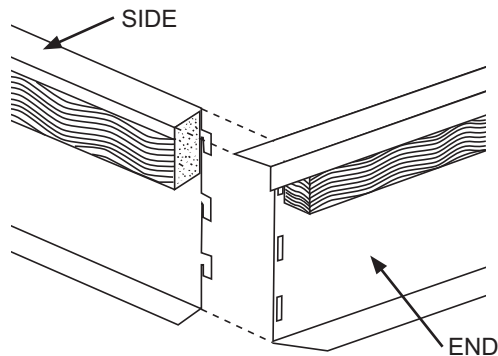

Fig. 3 — Corner Bracket Details
4. Assemble the perimeter of the roof curb. Bring together a curb side and end. Insert the tabs into the slots as shown in Fig. 3. Press the pieces together so that the tab is locked into place. It may be necessary to lightly hammer or to step on side to lock the parts in place. Repeat for other curb side and ends until the outer perimeter is assembled.